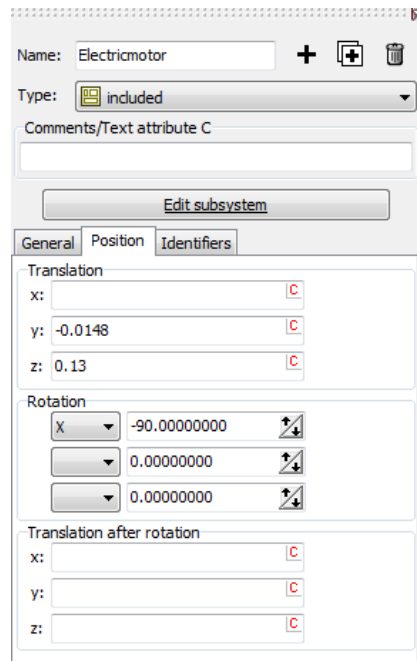

Figure 2.48.
4. Set the subsystem location as in Figure 2.48.
1. Click the **Edit subsystem** button to edit the **Electricmotor** subsystem, see Figure 2.48. New object constructor for the **Electricmotor** appears.